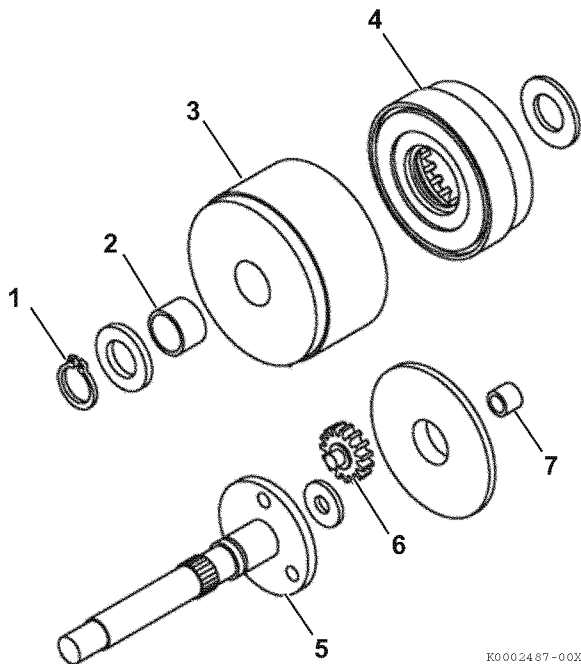

Figure 10-11
14. Remove the snap ring (**Figure 10-11, (1)**).
Remove the pinion shaft (**Figure 10-11, (5)**), planetary gears (**Figure 10-11, (6)**), washers and reduction gear (**Figure 10-11, (4)**) from the intermediate housing (**Figure 10-11, (3)**).
15. Inspect the intermediate bushing (**Figure 10-11, (2)**) and replace if worn or damaged.
16. Inspect armature bushing (**Figure 10-11, (7)**) and replace if worn or damaged.